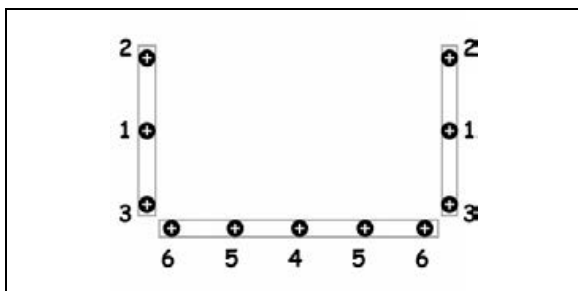

FIGURE 71: CORRECT TIGHTENING SEQUENCE
9. While a helper is pressing on the window from outside, install the awning window clamping frame and tighten screws according to the sequence shown in FIGURE 71;